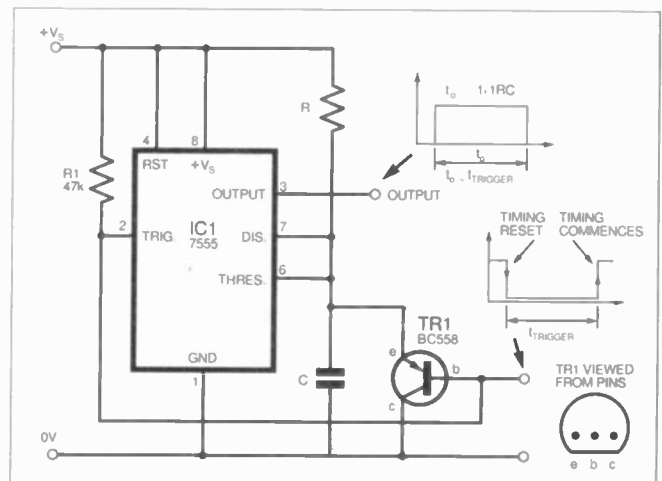

Fig.4. Retriggerable 555 monostable.
other means. This is accomplished by adding an external *pnp* transistor in parallel with the 555's internal discharge (pin 7) transistor and also hooking the base (b) lead to the trigger pin (2), as shown in Fig. 4.